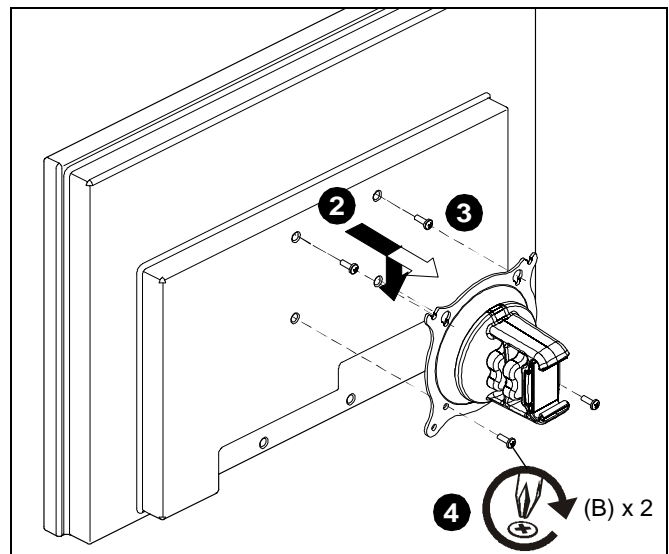

Figure 3
3. Place two screws in display back into upper teardrop mounting holes in MSP-XY100VB and lower display until screws are seated in lower area of teardrop mounting holes. (See Figure 3)
4. Install two screws through display mounting plate and into lower mounting holes in display back. (See Figure 3)